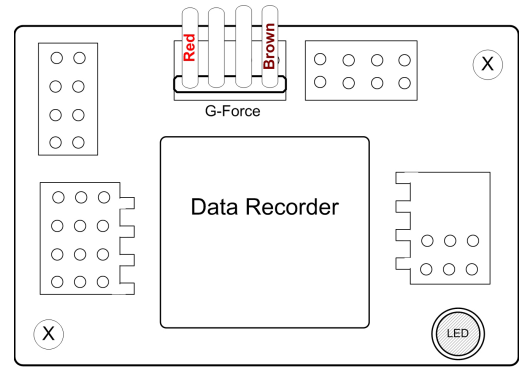

Figure 2
- 2) Please note that when using the sensor with our Data Recorders, that the plug polarity is reversed (the red wire goes to the left, rather than to the right). This is shown in Figure 2.
The 4 wire connector attached to the Sensor plugs into either the G-Force or EGT ("Thermo") port of your Data Recorder as shown in Figure 2. Make sure that you connect it in the correct location on the recorder, and with the correct polarity! **NOTE: The Servo Current Sensor is connected with the red wire on the left, which is backwards from the normal G-Force, EGT and transmitter connections.** Also, if you are already using both EGT and G-Force expanders, one of those can "daisy chain" to the Sensor as described in the section above.